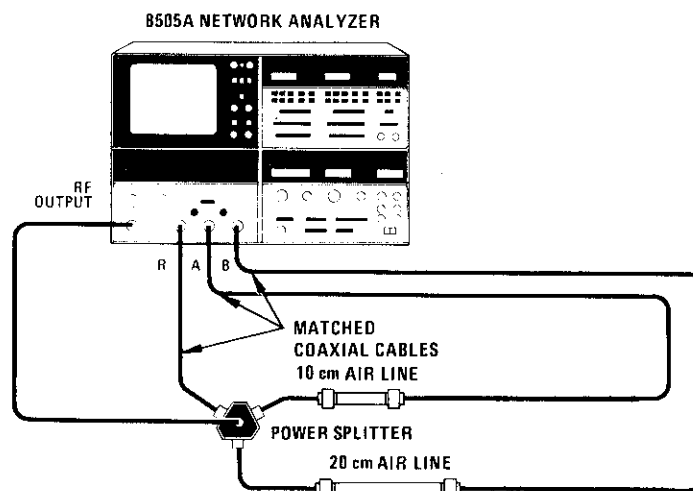

Figure D3-1A. A3 Signal Processor Troubleshooting Test Setup (Phase)
k. Connect equipment as shown in Figure D3-1A and set the 8505A controls as follows: